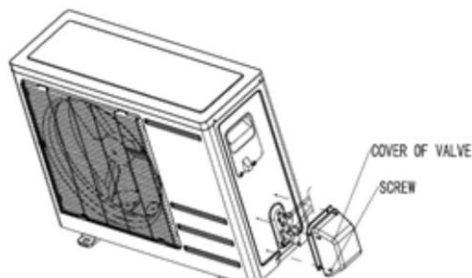

Fig. 11
- After connecting the connecting pipes between the indoor and outdoor units in accordance with the installation method described above, fix the cover of valve on the side of the outdoor unit with three appropriate screws (Fig. 11).